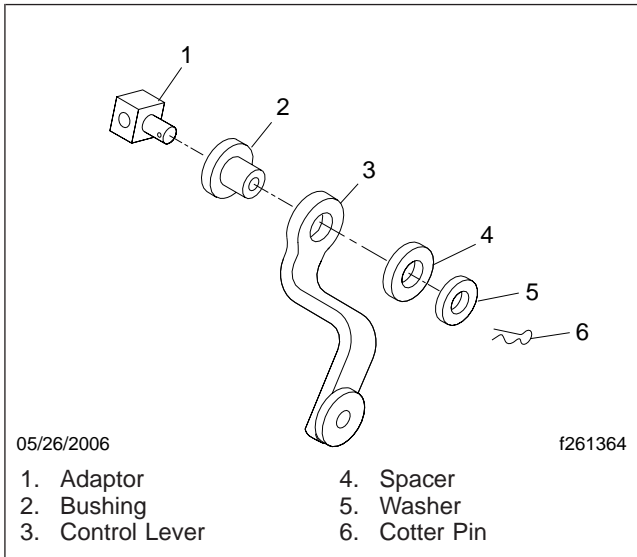

Fig. 1, Shift Control Lever Fasteners
7. Remove the shift selector cable from the control lever on the RH side of the transmission. See Fig. 1.